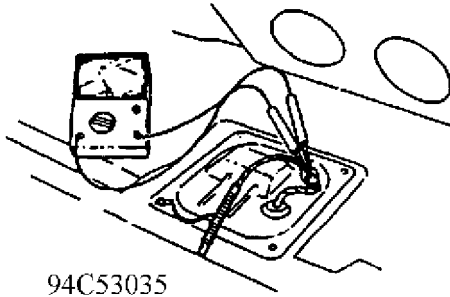

Fig. 8: Measuring Fuel Pump Voltage
- B) Connect test leads to the fuel pump positive and negative terminals and measure the voltage at the fuel pump connector (vehicle side). See Fig. 8 for illustration